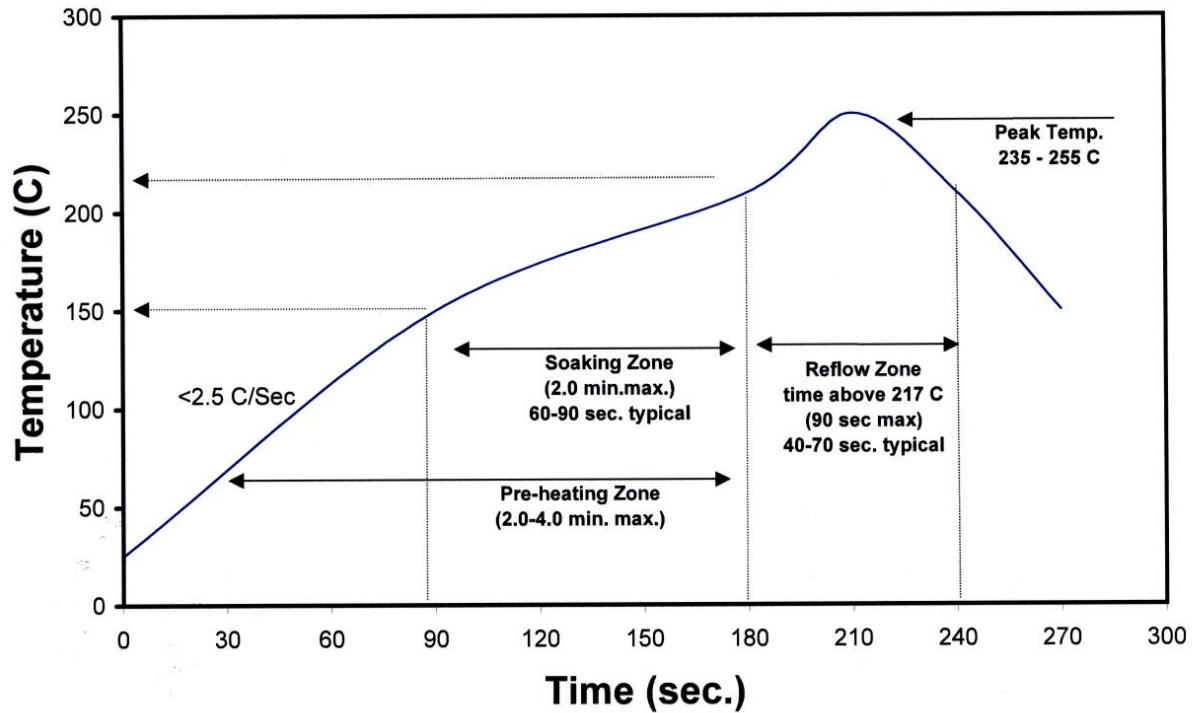

Figure 3: Reflow soldering profile for lead free soldering.
4. Solder conditions per JEDEC J-STD-020D. See Reflow Soldering Profile Figure 3.